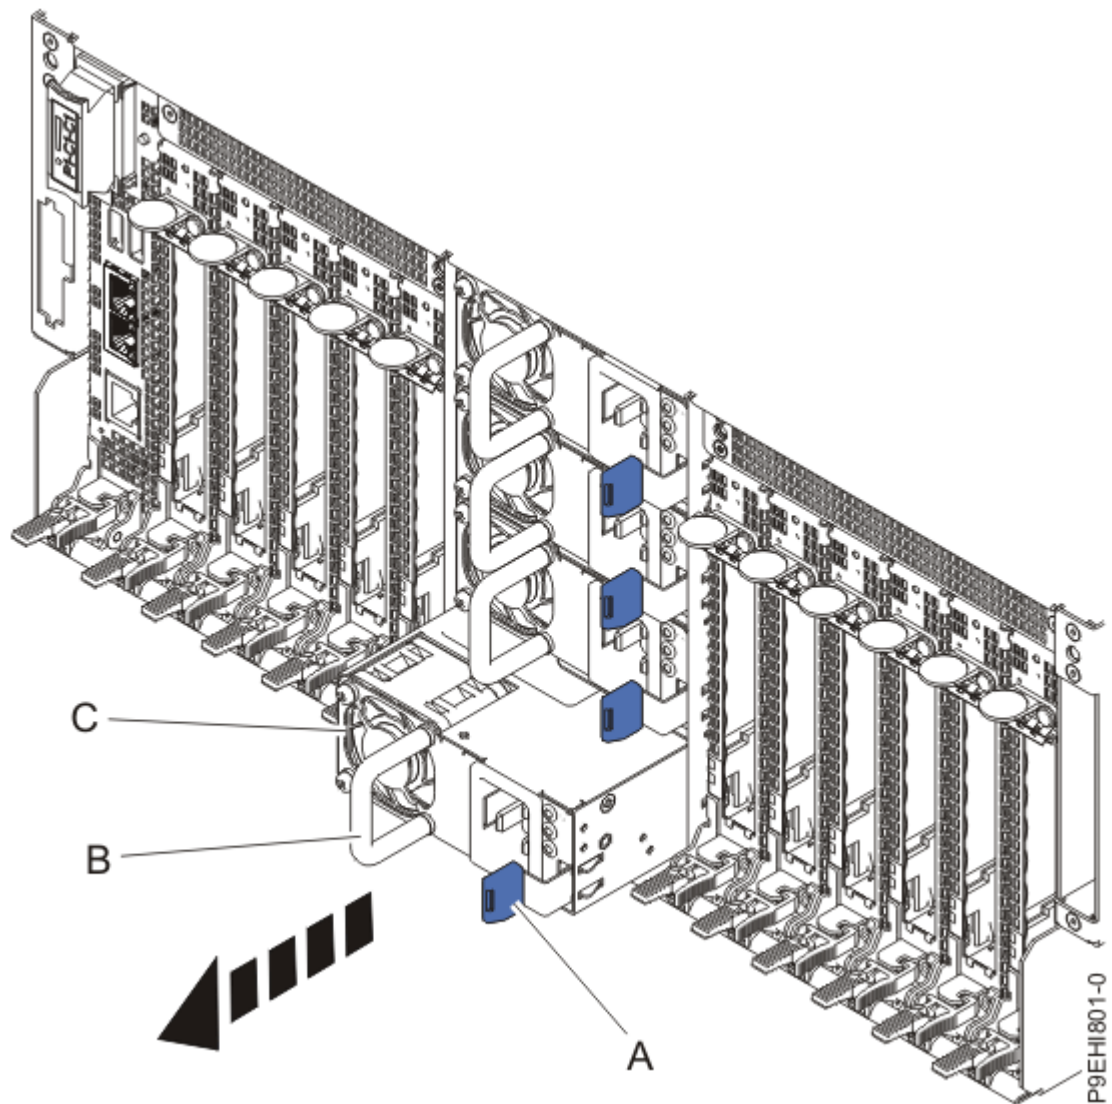

Figure 6. Removing a power supply from the rear of the system chassis
3. Push the locking-tab **(A)** to the left, as shown in Figure 6 on page 8.
4. Using the handle **(B)**, pull the power supply away from the system, as shown in Figure 6 on page 8.